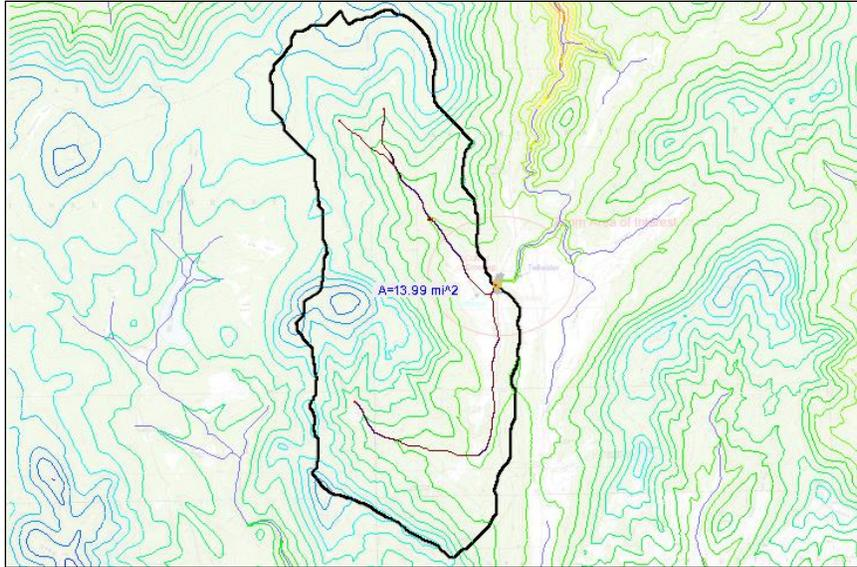

Figure 4 Delineated watershed with outlet at the culvert
4. Click **Delineate Watershed** to create the watershed boundaries (Figure 4).